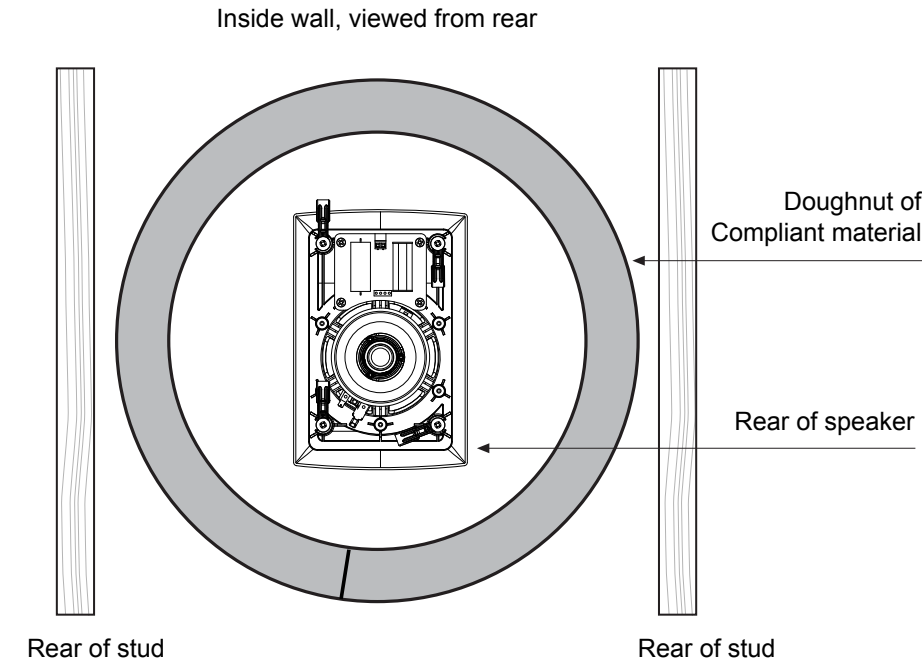

Fig 12: Stud partition or wall cavity, using compliant material of appropriate thickness to create a tight seal
- 1. Many professional installers use a "doughnut" of compliant material, which can be inserted as a tight fit between the two surfaces of the partition or into the wall cavity. The length of the internal surface of the strip of material determines the 'enclosure' volume. For each model, cut the strips into lengths listed in the table below, insert into the cavity, and join to form a ring that will ensure the correct volume - see Fig : 12